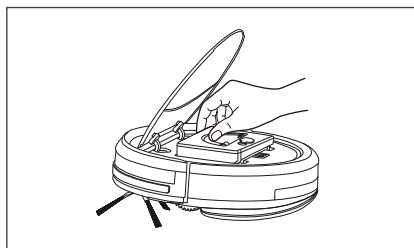

Figure 3
4. Open the robot lid and put the water tank into the body, the weep hole of the water tank should be aligned with the weep hole on the robot body. (Figure 3)